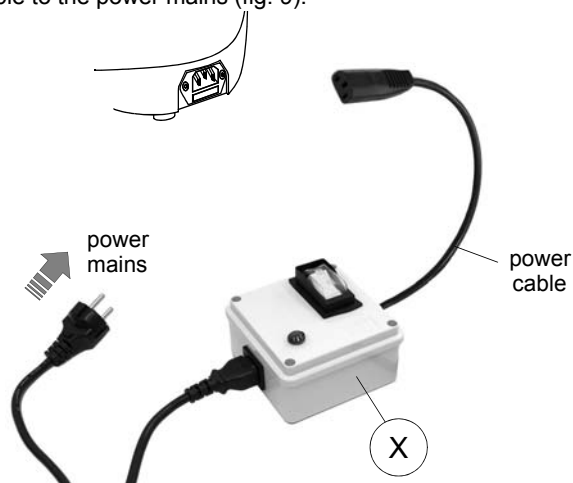

Fig. 9
First connect the safety device (X) to the key-cutting machine and the power cable then connect the free end of the power cable to the power mains (fig. 9).